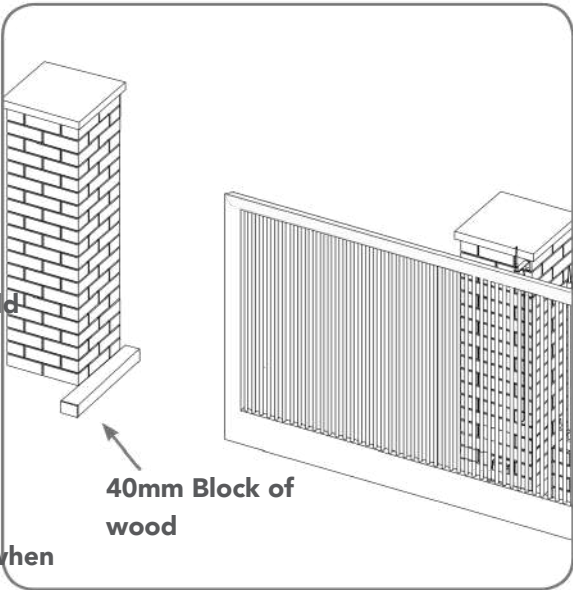

Fig 9.1
- b. Place a piece of timber approximately 40mm wide on the ground directly next to the closing pylon / fence (Fig. 9.1).